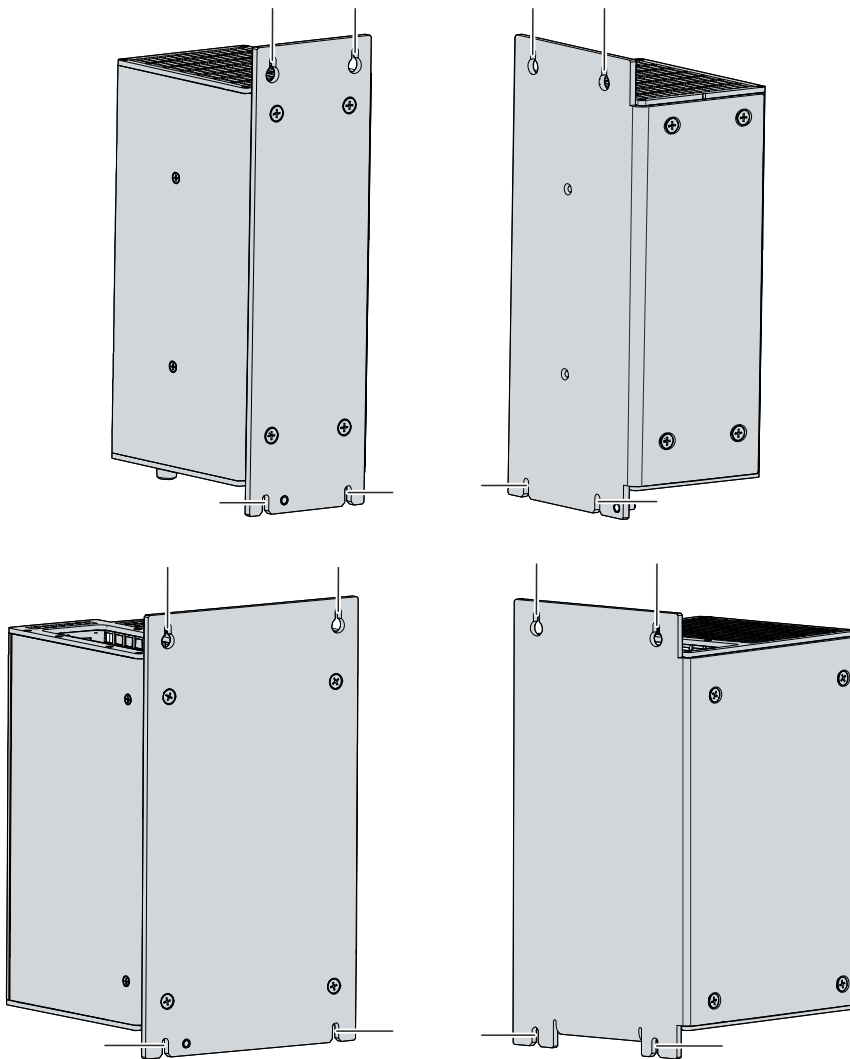

Fig. 22: C6930_Dismantling the control cabinet
2. Lift the PC far enough so that the mounting screws slip into the keyholes (see fig. 22).